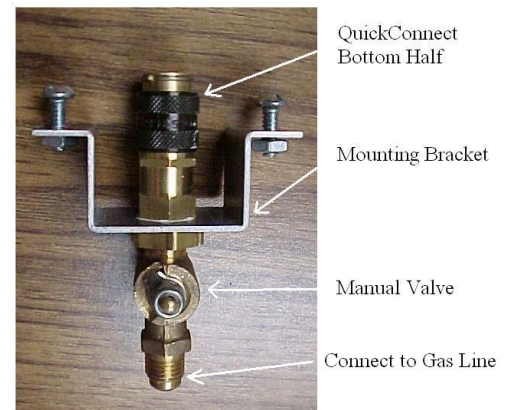

Figure 1
7. The quick-connect fitting with modified manual shut-off valve shall be preinstalled in the bracket (See Figure 1) before installing in the light. NOTE: Apply TFE Paste thread sealer to each connection if not already applied. (Photo shows a modified GLM manual valve, another valve may be substituted).